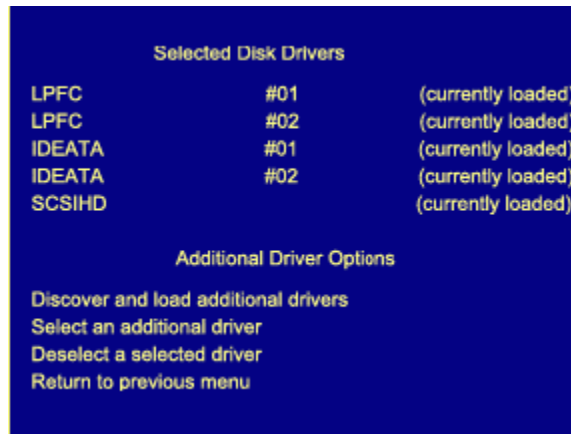

Figure 4: Selected Disk Drivers
2. During configuration, a screen similar to Figure 4 appears: